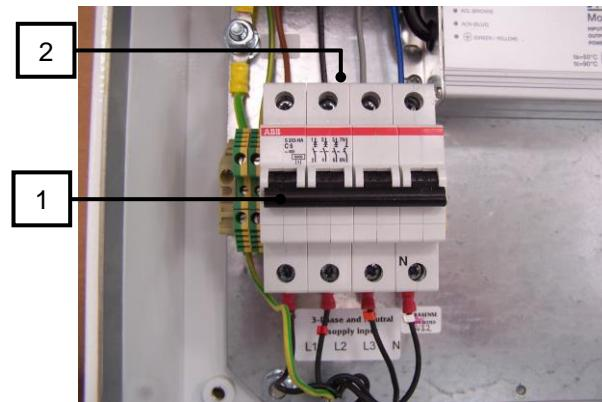

Fig 5.0
Switch off the mains supply to the SFP and wait for a few seconds while the power supply discharges. Open the door with the key provided, switch off at the internal circuit breaker (1) Noting the sequence, disconnect the supply cables to the PSU (2) (see Figure 5.0).